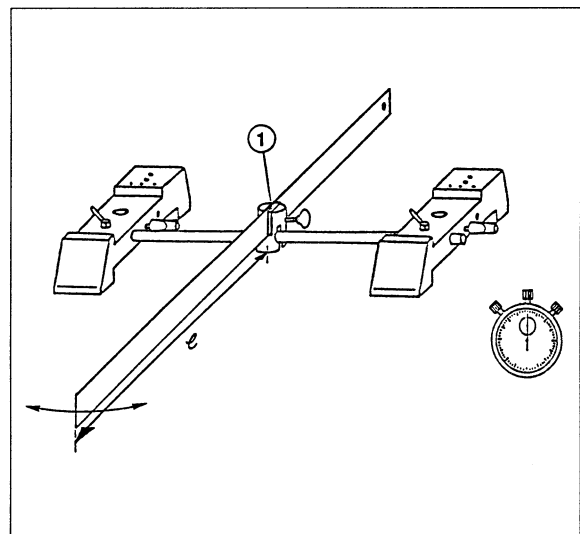

Fig. 1 Experimental setup for determining the frequency f of a vibrating leaf spring as a function of its length.
1. Assemble the items of apparatus as shown in fig. 1.